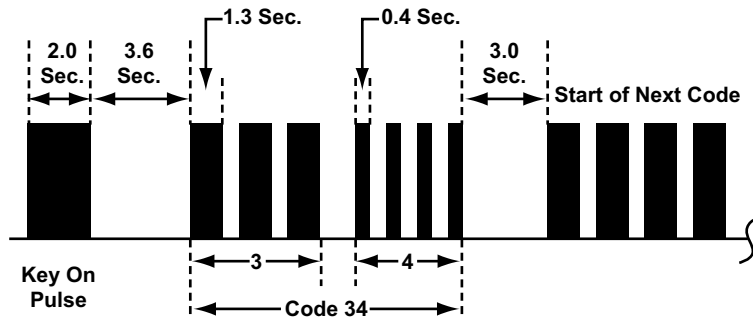

Figure 8-14 Honda ABS Code Type 04
- Type 04, see Figure 8-14 and Table 8-7 on page 63